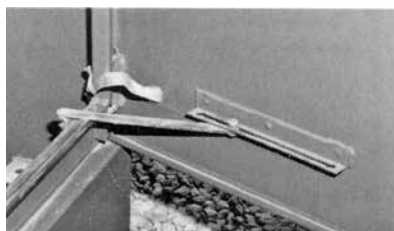

Figure 23.
3. Open door and secure with door keeper. (Figure 23)